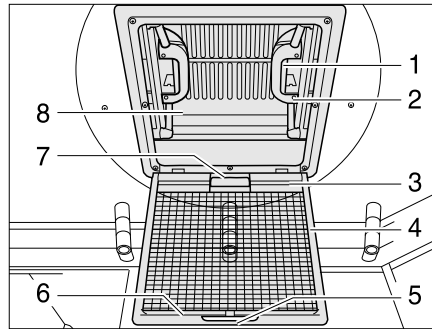

Fig. 90 Skylight with snap latch
- Pull on the handle (Fig. 90,5).
- Fold the insect screen (Fig. 90,4) downwards.
- Push the spring-loaded latch (Fig. 90,1) towards the inside of the skylight (Fig. 90,8). At the same time use the handle (Fig. 90,2) to press the skylight upwards.
- Swing the insect screen upwards (Fig. 90,4) until it latches in place.
- Using both handles (Fig. 90,2), pull down the skylight (Fig. 90,8) with force until the two snap latches (Fig. 90,1) lock into place.
- Pull the handle (Fig. 90,7) of the blind and hook the hook rail (Fig. 90,3) into the retainer (Fig. 90,6) on the insect screen.
- Release the hook rail (Fig. 90,3) from the retainer (Fig. 90,6) and feed the blind back slowly.